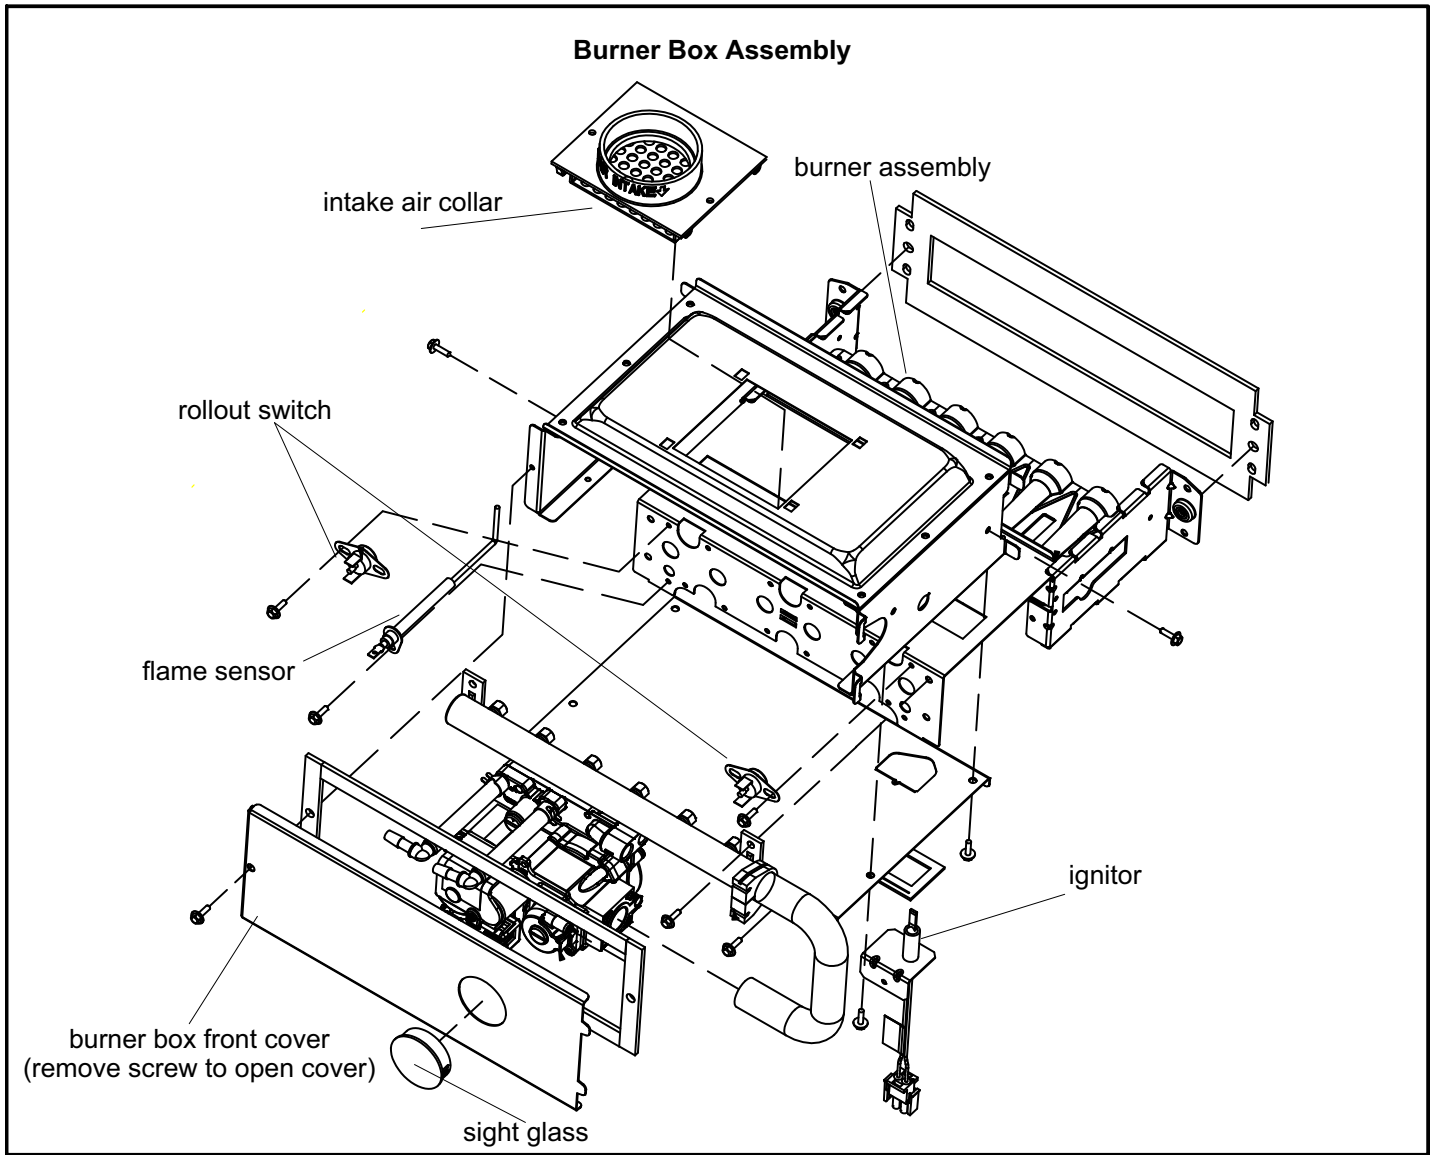

FIGURE 14
1. Ignitor (Figure 14)
2. Flame Sensor (Figure 14)
A flame sensor (figure 14) is located on the left side of the burner support. The sensor is mounted on the flame rollout plate and the tip protrudes into the flame envelope of the left-most burner. The sensor can be removed for service without removing any part of the burners. During operation, flame is sensed by current passed through the flame and sensing electrode. The SureLight control allows the gas valve to remain open as long as flame signal is sensed. To check flame sense signal use the push-button found on the integrated control and go to Field Test Mode. The menu will display the flame signal. Table 18 shows the flame signal for the SLP98UHV unit.
3. Flame Rollout Switches (Figure 14)
4. Burners (Figure 14)